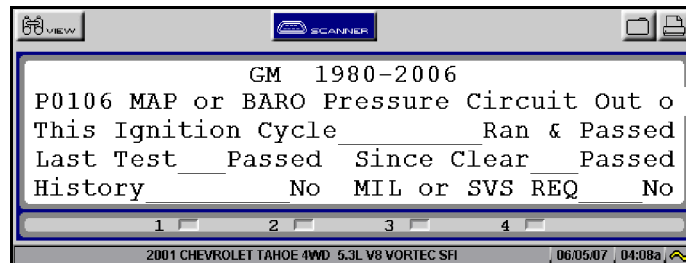

Figure 5-23 Sample DTC Status screen
9. Press **Y/✓** and the status of the selected DTC displays (Figure 5-23).